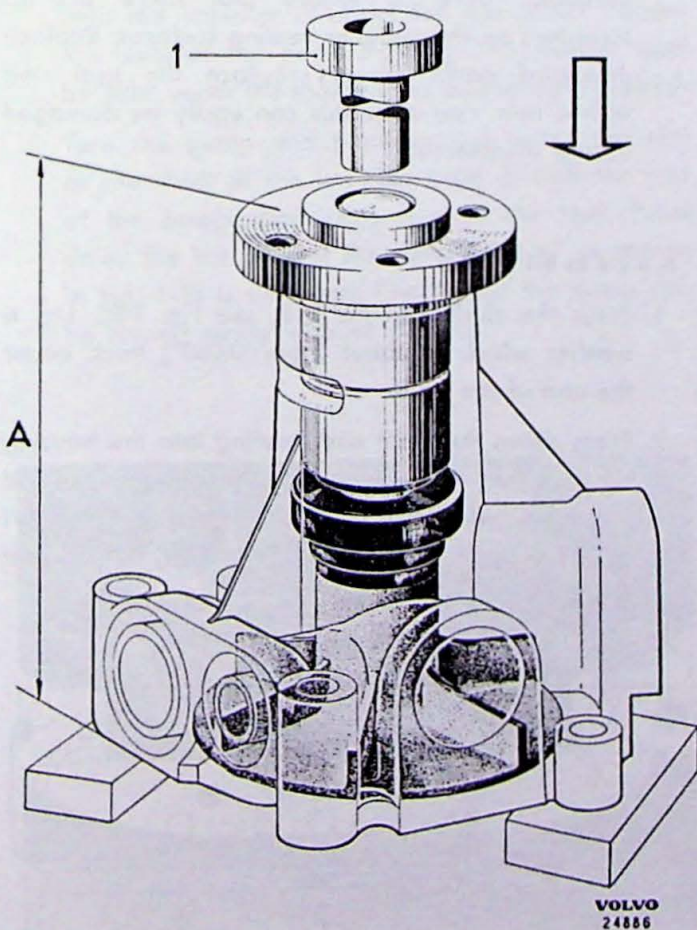

Fig. 1-83. Removing the shaft and impeller
1. Pull out the lock spring. Place the pump in a press as shown on Fig. 1-83.
2. Press out the shaft and impeller with tool SVO 2266. See Fig. 1-83.
5. Turn the pump and place a tool under the end of the shaft in the impeller hole so that the end of the pump shaft rests against the tool. Press down the hub so that the dimension "A" as shown in Fig. 1-83 is obtained. Check that the pump can be turned easily without chafing.